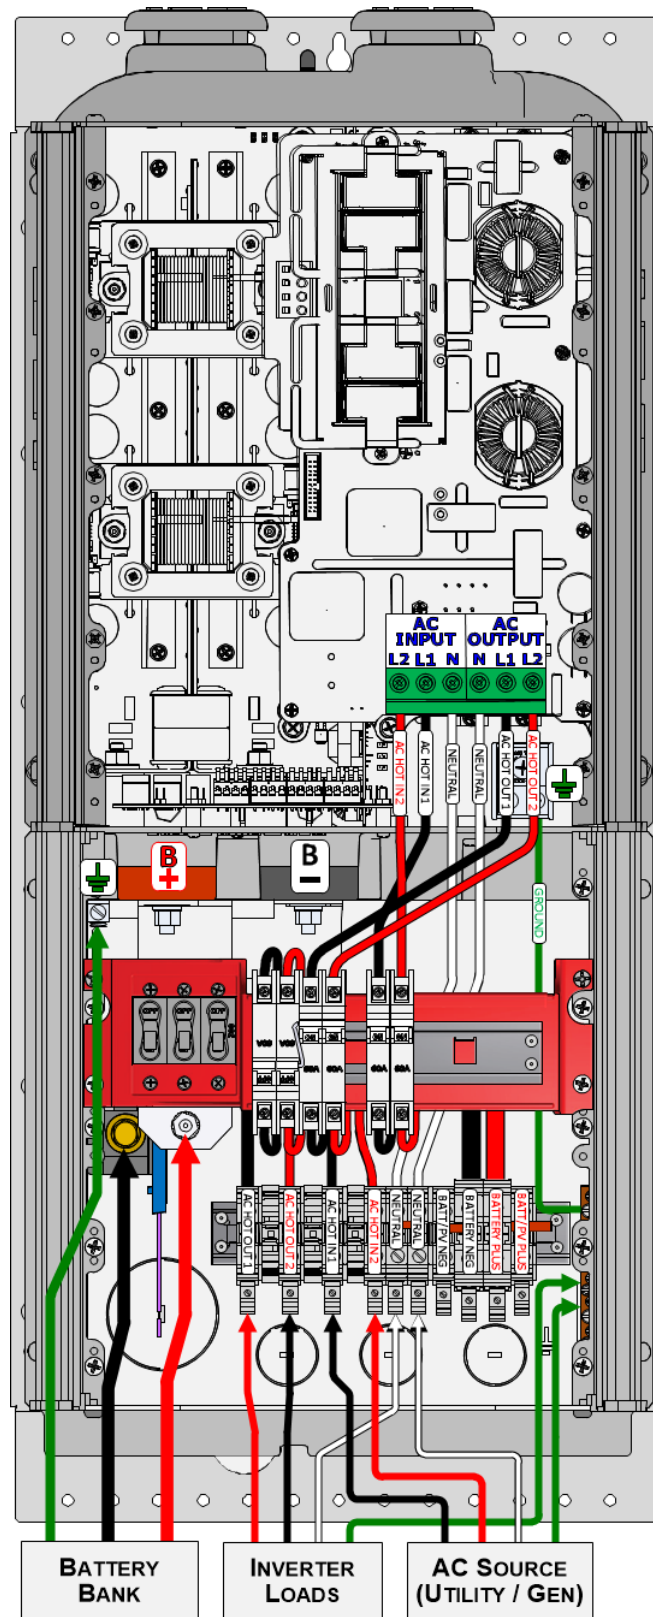

Figure 2
- Take a moment to study the various connections of the Rosie to the E-Panel as shown in **Figure 2**.